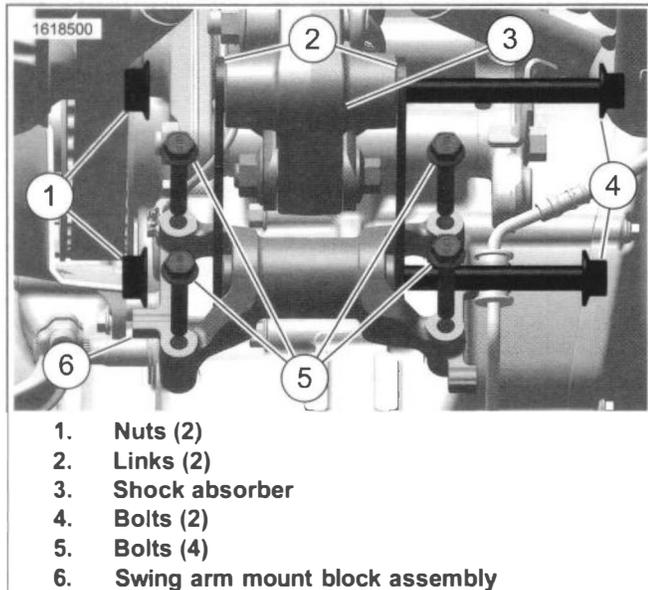

Figure 3-74. Swing Arm Mount Block Assembly
1. See Figure 3-74. Remove links.
- a. Remove nuts (1).
- b. Remove bolts (4) and links (2).
2. Remove bolts (5) and swing arm mount block assembly (6).
1. See Figure 3-74. Position swing arm mount block assembly (6) and install screws (5). Tighten.